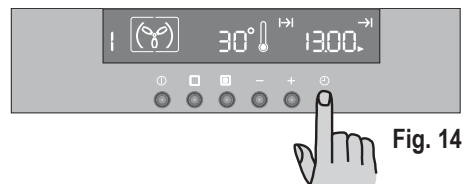

Fig. 14
- 2) Press button ⏸ until the "End of Cooking" function →| is selected and the relevant symbol flashes. The control panel will display the end of cooking time (that is, the actual time + cooking duration time - Fig. 14).